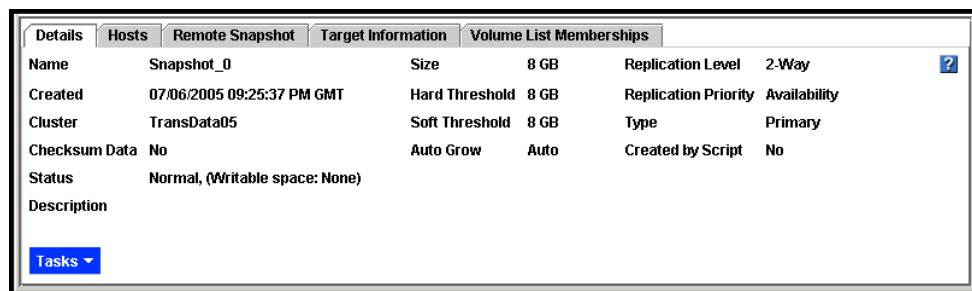

Figure 176. Snapshot Tab
Clicking on the snapshot itself opens the snapshot Tab View, shown in Figure 176.
- Click OK when you are finished. The snapshot Tab View opens, shown in Figure 176 on page 248.